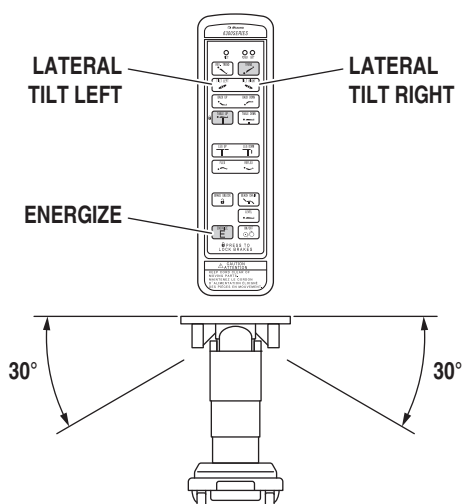

Figure 2-9. Lateral Tilt Positioning
c. Lateral Tilt To achieve lateral tilt right (as viewed from the head end of the table), press the ENERGIZE button and then the TILT RIGHT button (figure 2-9). To achieve lateral tilt left, press the ENERGIZE button and then the TILT LEFT button. Tilt of up to 30° may be obtained.